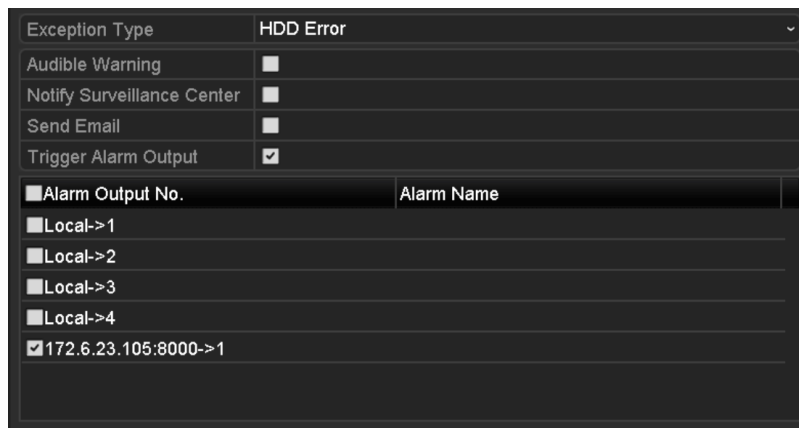

Figure 15-29 Configure HDD Error Alarm
Step 3 Click the checkbox(s) below to select the HDD error alarm type (s), as shown in Figure 15-29.